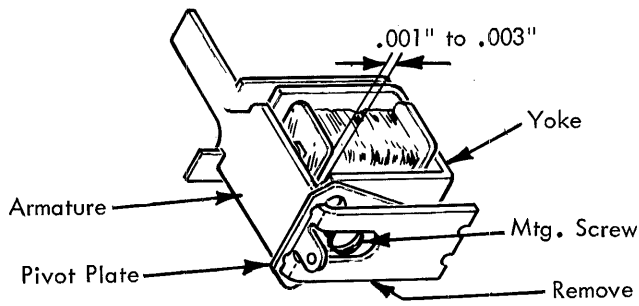

FIGURE 142.16 Pivot Plate
- a. Adjust the pivot plate for .001" to .003" between the armature and the yoke with the armature attracted (Fig. 142.16). This will ensure a free armature.